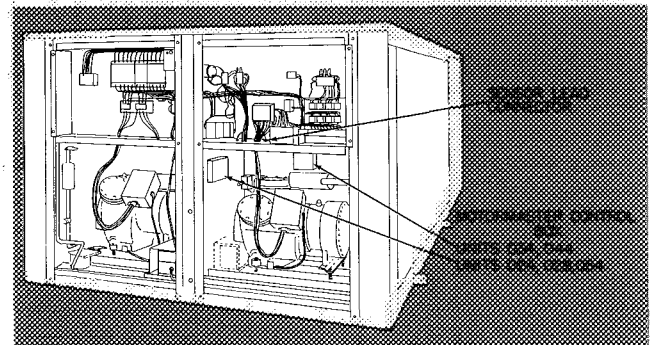

Fig. 16 — Motormaster Control Location
5. **Locate Motormaster Control** as shown in Fig. 16 using the mounting template provided in the 32LT Installation Instructions.